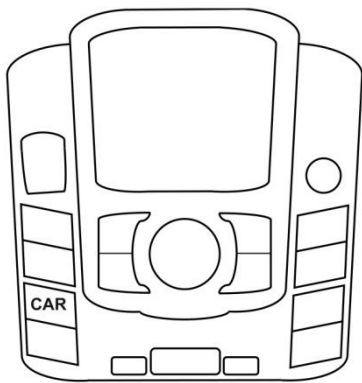

Fig. 1
4. Press the button **CAR** (Fig. 1). Fig. 2 is shown in the display.